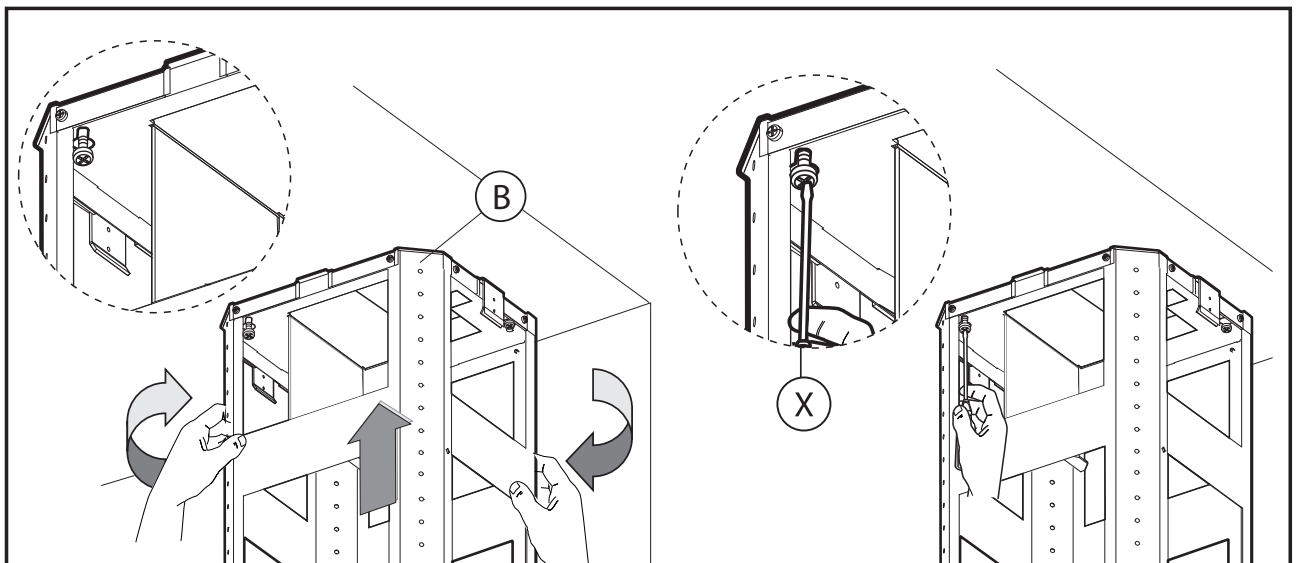

Fig.3
- Take the upper part of the structure **B** (**Fig.3**) and insert the 3 slots onto the 3 screws that are not completely tightened. Rotate slightly to fit (**Fig.3**). Drive in the fourth screw **X** and tighten the remaining 3 to allow definitive blocking of the upper part of structure **B**.